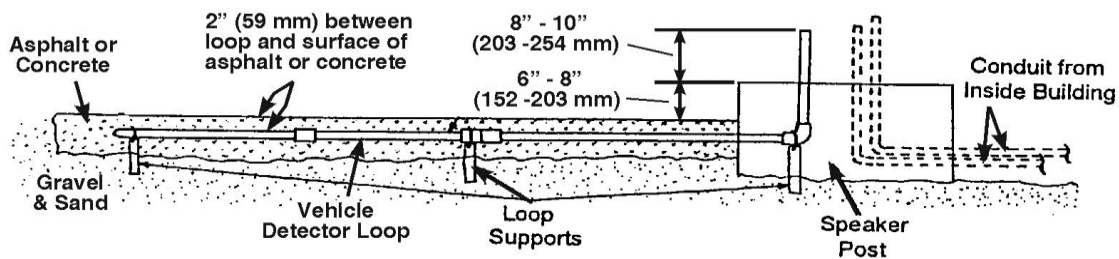

Figure 3. Side view of loop in asphalt or concrete
- Flatten the loop (folded for shipping) as shown in Figure 2 (1). Fit the pipe securely into the couplings (2). Lay the loop flat in the drive-thru lane and position it as shown in Figure 2. Elevate the loop on supports that are anchored to the ground, as shown in Figure 3. Level the loop so it will be 2 inches (51 mm) or less from the paved surface when the concrete is poured. Fasten the loop to the supports with wire, so it will not float when the concrete is poured.
- Pull the loop wires through the sleeve coupling (3) and the PVC loop extension (4). Slide one end of the sleeve coupling (3) over the nipple on the corner fitting of the loop (5), and slide the end of the loop extension (4) into the other end of the sleeve coupling (3).
- Pull the loop wires through the elbow coupling (6) and the remaining 2 foot (.61 meter) piece of PVC (7). Slide the two ends (of 4 & 7) into the coupling (6), positioning the piece of PVC (7) so it points upward, out of the ground. Be certain it is next to and parallel to the outlets of the conduit coming into the speaker post or menu board from the building.